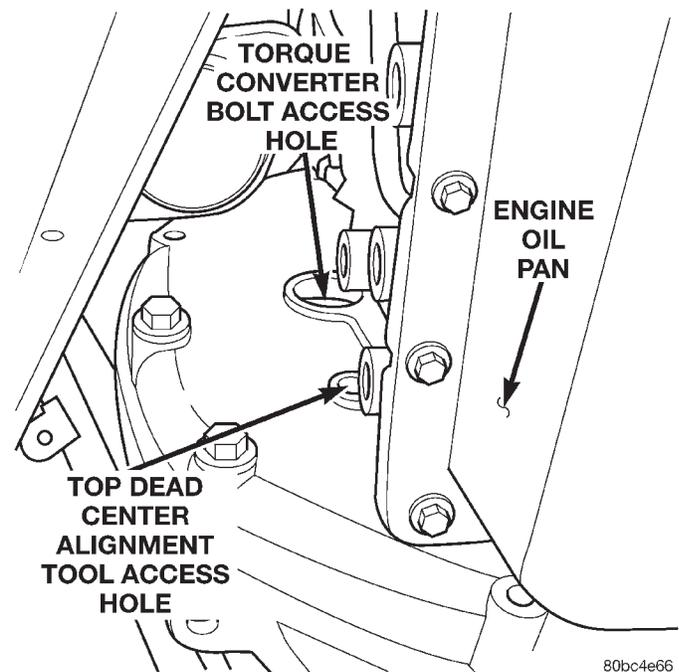
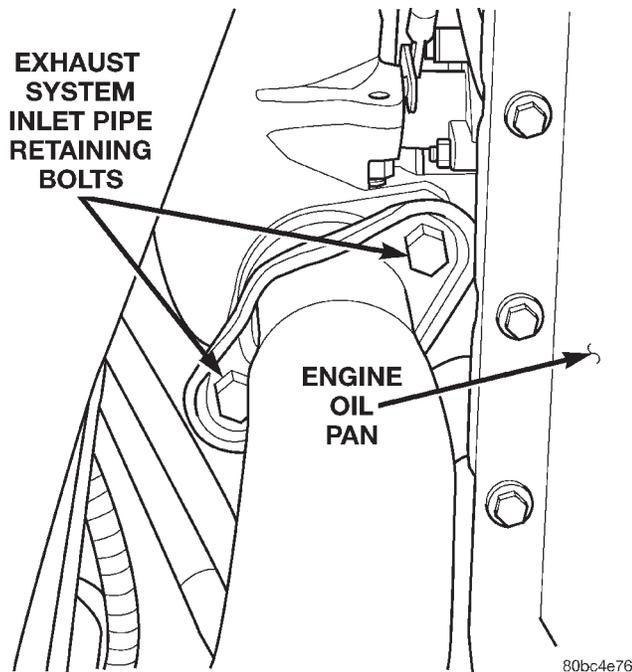

Fig. 22 Torque Converter Bolt Access Hole
Fig. 23 Exhaust System Inlet Pipe Retaining Bolts
(8) Working through the torque converter bolt access hole (Fig. 22), install the (4) torque converter to driveplate retaining bolts. Torque the bolts to 32 N·m (24 ft. lbs.) after all bolts are installed.
(9) Install the starter motor in the vehicle. Refer to Group 8B, Starting Systems for the procedure.
(10) Install the exhaust system inlet pipe and retaining bolts (Fig. 23). Torque the bolts to 41 N·m (30 ft. lbs.).